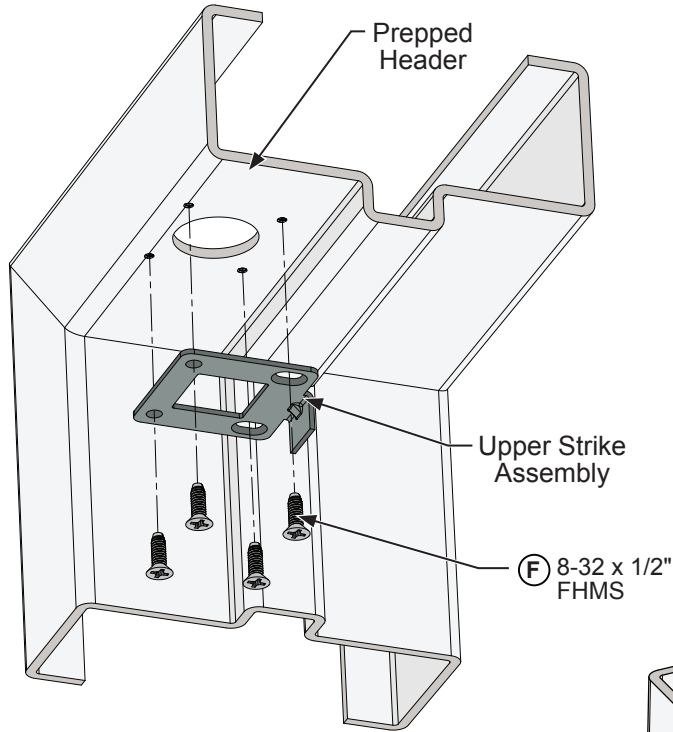

FIG. 22
Drill a 1" diameter hole and drill and tap for (2) (F) 8-32 x 1/2" FHMS on the mark made in step 2 of the frame preparation on page 16. Attach the upper strike to header using (2) (F) 8-32 x 1/2" FHMS. (Fig. 22)